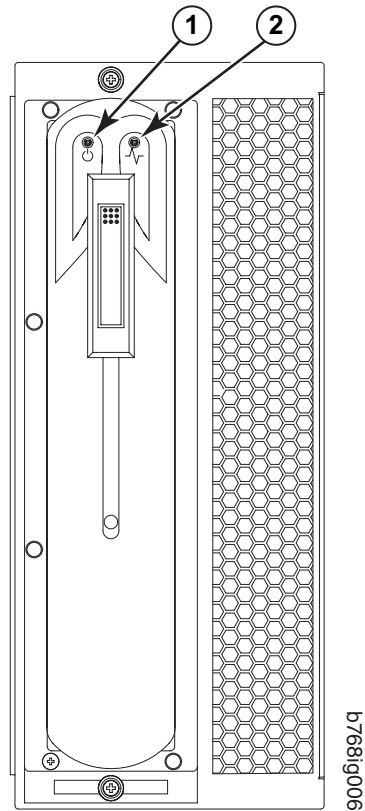

Figure 19. Blower assembly LEDs and other parts
1. Check the LED indicators on the blower assembly (see Figure 19 on page 47).
Figure 19 displays the blower assembly.